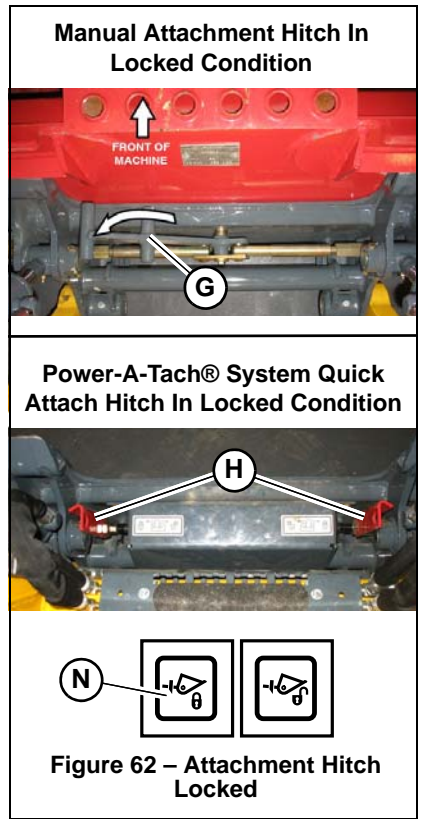

Figure 62 – Attachment Hitch Locked
- **All-Tach® system manual hitch:** Move hitch lock lever (G) all the way to the right.
- **Power-A-Tach® system quick attach hitch:** Press the Power-A-Tach® system unlock button (I) on the control keypad until safety flags (H) have moved all the way in.
3. Lower the lift arm so tabs (J) on the top of the attachment plate are aligned just under the hooks on the back of the attachment.
4. Tilt the attachment plate back until tabs (J) on the top of the attachment plate are engaged against the hooks on the back of the attachment.
5. Raise the lift arm slightly until the attachment is hanging from the hooks on the back of the attachment and tabs (J) are firmly inserted into the hooks. Tilt the attachment plate back, if necessary, so the back of the attachment is resting flat against the attachment plate.
6. Place the attachment lock into the locked position (Figure 62):
- **All-Tach® system manual hitch:** Perform the “Mandatory Safety Shut-down Procedure” on page 14 and move hitch lock lever all the way to the left (G).
- **Power-A-Tach® system quick attach hitch:** Press the Power-A-Tach® system lock button (N) on the control keypad until safety flags (H) have moved all the way out.